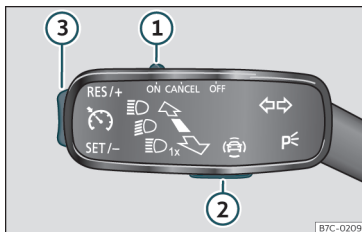

Fig. 157 On the turn signal lever: buttons to operate the speed limiter.
To change between the driving assistance systems, press button  >>> **Fig. 157 ②**, then select with the right thumbwheel on the multifunction steering wheel in the instrument panel menu and press the thumbwheel to confirm your selection.
- Move control»» **Fig. 157** ① to position **ON** and press button ②.
- While driving, press button»» **Fig. 157** ③ in the area **SET/-**.
»» **Fig. 157** ③:
- Move control»» **Fig. 157** ① to position **OFF**.
If you want to temporarily deactivate the speed limiter, e.g. for overtaking, move the control»» **Fig. 157** ① to position **CANCEL** or press button ②.
After overtaking, the speed limiter can be activated with the previously programmed speed by pressing button»» **Fig. 157** ③ in the area **RES/+**.